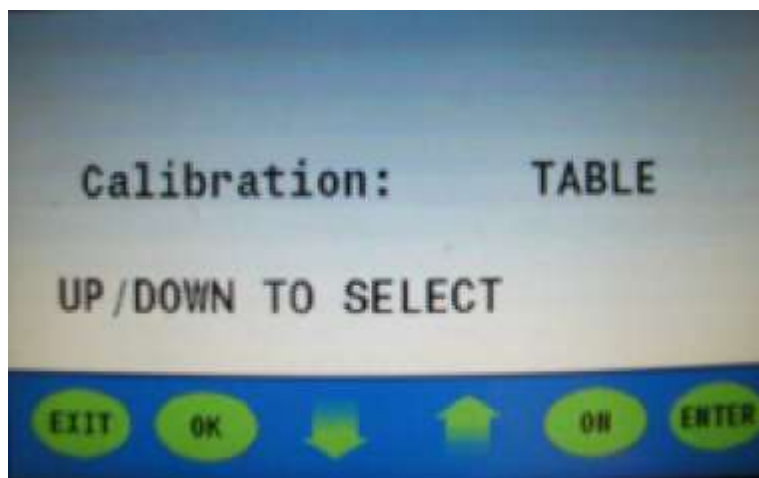

Figure 5
4. Press the **up** or **down arrow** to set the last value in the number sequence, "0" to "8." Press the **enter button** the display will read: "Calibration: Table" (**figure 5**).